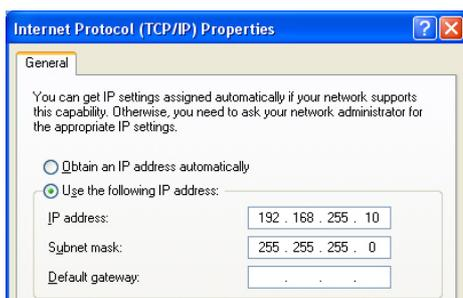

Figure 7: IP configuration interface
- a. Entry the **IP address** as "192.168.255.x", where "x" is a number between 1 and 254 **except 1**, **Subnet mask** as "255.255.255.0". Finally, press "OK" button, please refer the Figure 7.